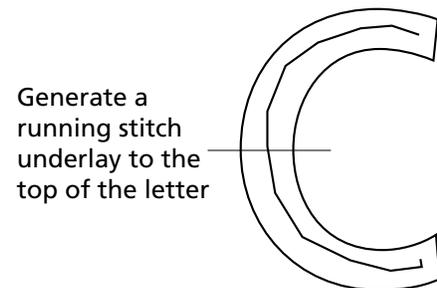

Figure 3-21
3. Perform a running stitch underlay with Mk1s to get to the upper right portion of the letter c (see Figure 3-21).